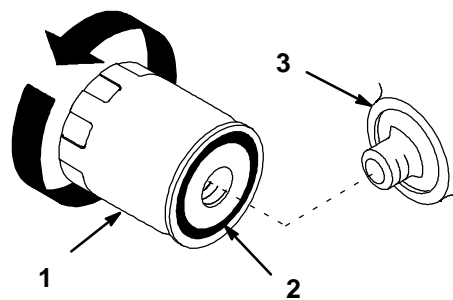

Figure 24
2. Remove the old filter and wipe the filter adapter (Fig. 24) gasket surface.
4. Apply a thin coat of new oil to the rubber gasket on the replacement filter (Fig. 24).
5. Install the replacement oil filter to the filter adapter. Turn the oil filter clockwise until the rubber gasket contacts the filter adapter, then tighten the filter an additional 1/2 turn (Fig. 24).